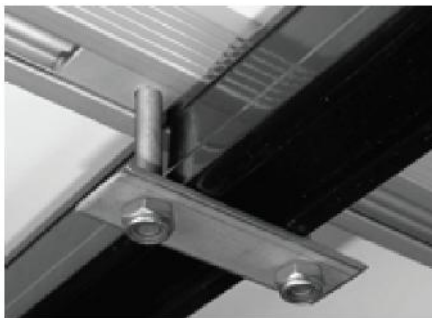

Figure 4
3. Attach the rooftop tent to your roof rack or roof bars in four places as per Figure 4, 5, 6. Use 2 bolts and 2 slide plates with the base plate to hug the bar. 1 set per corner.